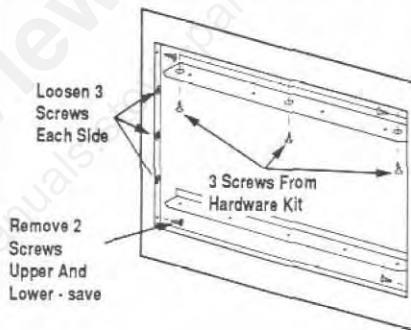
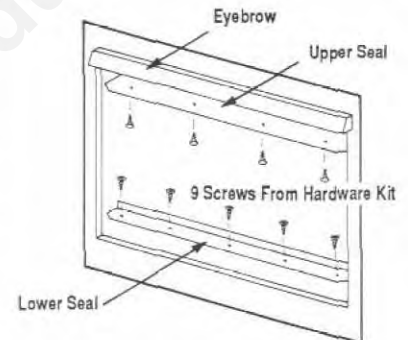

Figure 48
Figure 49
**Step 1.** Secure the eyebrow to the upper fireplace frame with three (3) sheet metal screws from the hardware kit. See Figure 48 for screw locations.
**Step 2.** Loosen the three (3) middle screws each side of the fireplace opening (Figure 48). Attach the polished brass side flange and tighten all screws. Repeat for opposite side of the opening.
**Step 3.** Remove the upper right and left side screws from the side frame (Figure 48). Attach the upper trim bar to the upper seal with four (4) black No. 8 Phillips pan head screws from the hardware kit (Figure 49) and secure the ends of the trim bar with two (2) upper screws just removed.
**Step 4.** Remove the lower right and left side screws from the side frames (Figure 48). Attach the lower trim bar to the lower seal with five (5) black No. 8 Phillips pan head screws from the hardware kit (Figure 49) and secure the ends of the lower trim bar with two (2) lower screws just removed. Assure the center screw is aligned and engages the center "C" bracket.